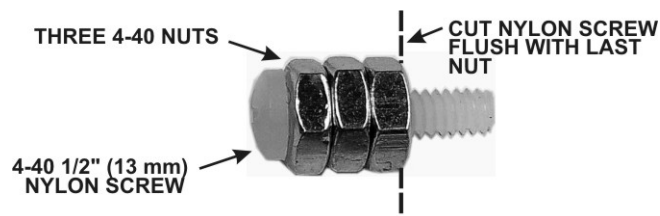
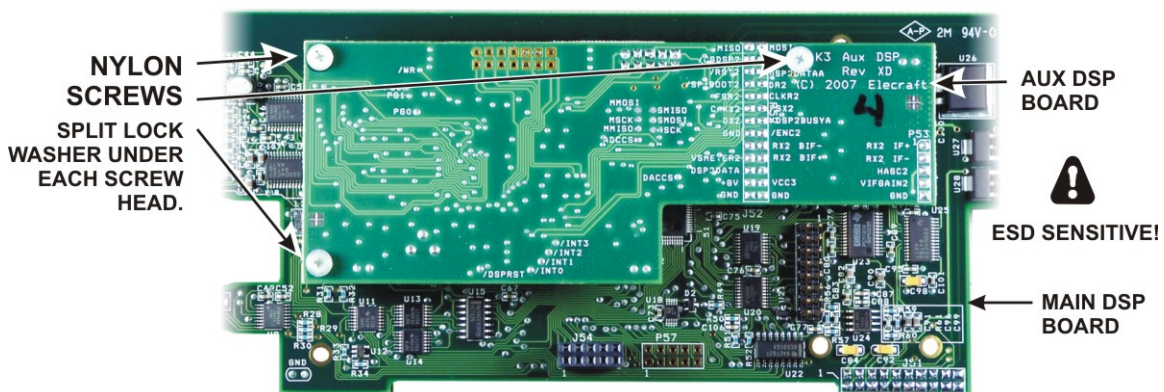

Figure 22. Preparing the Nylon Screw.
Figure 24. Mating the Main and Auxiliary DSP Boards.
- Screw three 4-40 nuts onto the 1/2" (13 mm) 4-40 nylon screw as shown in Figure 22.
□ Plug the aux DSP board into the main DSP board by mating P52 and P53 on the aux DSP board (at the narrow end) with J52 and J53 on the main DSP board. When fully seated, the connectors should be fully engaged so that the pins do not show and the aux DSP board should rest against the top of the standoffs with the holes in the board aligned for the screws (See Figure 24). Note that a two-row 10-pin connector at the top of the aux DSP board does not mate with anything on the main DSP board. That is normal. Attach the boards with three 4-40 1/4" (6.4 mm) *nylon* screws or the nylon screws you trimmed to length earlier (see Figure 22). Place a split lock washer under each screw head. Do not place washers between the standoff and the pc board. **Be careful tightening the nylon screws. They are easily stripped!**